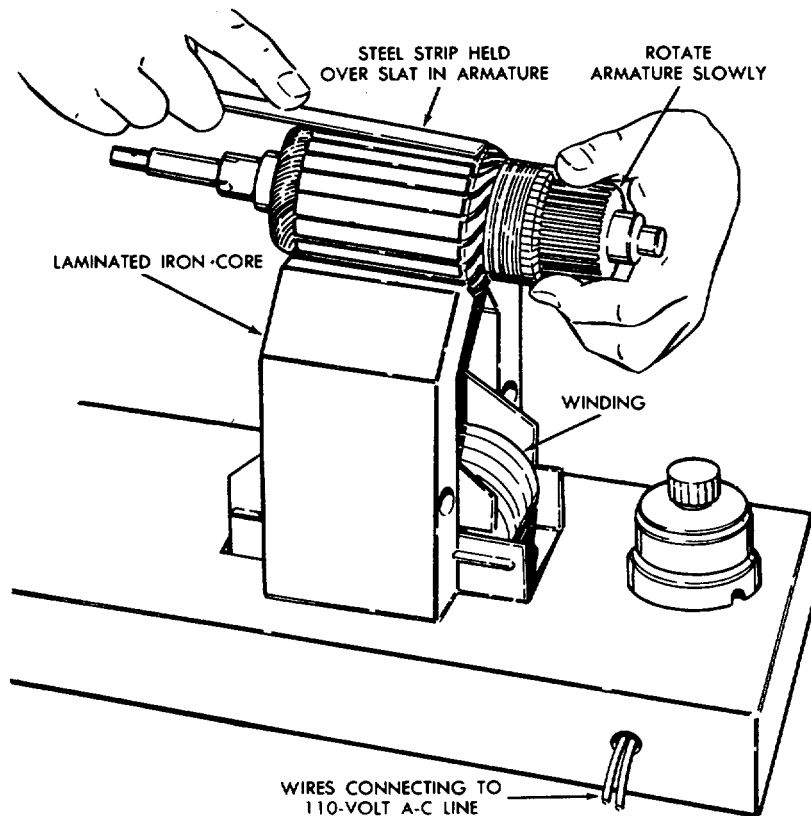

Figure 80. Testing armature on a growler.
- (c) *Short (fig. 80).* A shorted armature may be detected on a growler. When an armature is placed on the growler, and a hacksaw blade held above each armature coil, the blade will be alternately attracted to and repelled from a shorted armature coil. Replace a shorted armature. Before discarding an armature, inspect the commutator slots. Copper and brush dust sometimes collects in the slots and shorts adjacent bars.
- (3) *Field.* Test the field coil current draw by connecting a battery and an ammeter between the two field leads. The current draw at 24-volts should be from 0.66 to 0.74 amperes. Replace the frame and field assembly if the field coil current is not between the limits specified.
- (4) *Brushes.* Replace the brushes as instructed in paragraph 92b.
- (5) *Brush springs.* The brush springs must have enough tension to provide proper pressure between the brushes and the commutator after the generator is assembled. After reassembling the brushes, brush springs, and brush arms to the commutator-frame end, place the commutator in position and check with a spring scale the amount of pull needed to raise the brush arms from the brushes. Replace the springs if the tension is not 28 ounces.
- (6) *Bearings.* Replace the ball bearings if they roll rough, or sloppily. Otherwise, clean the bearings by rotating them in carbon tetrachloride, or similar solvent. Dry them with compressed air and immediately relubricate with grease, ball and roller bearing BR.
- (7) *Commutator-end frame.* Replace the commutator-end frame if the holders or pins are damaged in any way. The frame is of riveted construction and must be replaced as a unit.